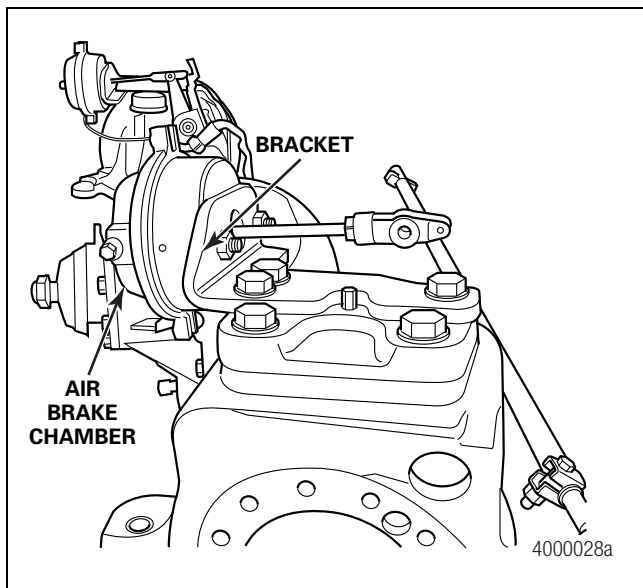

Figure 3.14
8. Remove the air brake chamber and bracket. Figure 3.14.